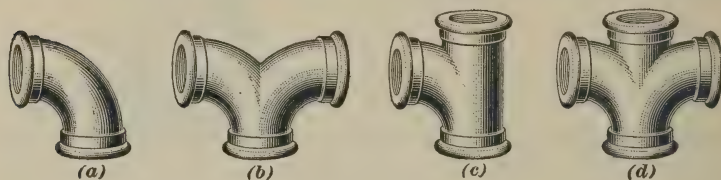

FIG. 22
**33.** Long-turn fittings are made similar to the standard steam fittings, but have a long bend, which allows an easy flow of the liquid. In Fig. 22 is shown a long-turn elbow in (*a*), a double-branch elbow in (*b*), a tee in (*c*), and